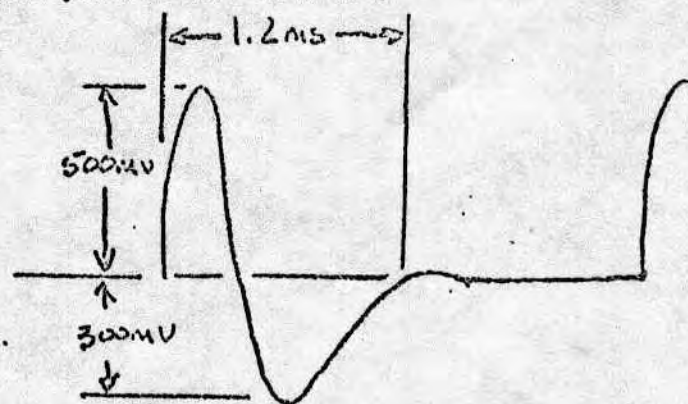

FIG. 12. SOURCE OF Q41 WITH "BRIGHT" TAB DEPRESSED, -3 VOLTS ON EXT. FIL., FREQ. OF 524 Hz.
- e. Depress "bright" tab and second C from the bottom of keyboard. Observe waveform at source of Q41. Apply -3 volts to Pin 5. Waveform should compare to waveform in Fig. 12. This tests the external control of the bandpass filter.